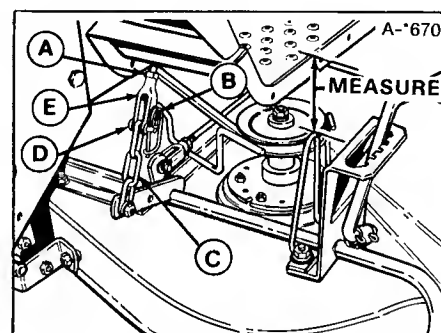
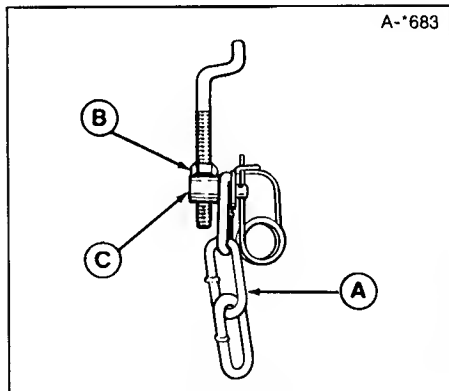

Figure 44. Lift Assembly - Small Lift Lever
Figure 46. Lift Assembly - Large Lift Lever.
2. Measure the distance between top of upstop bracket and bottom of footrest (figure 44). The measurement should be 3-1/4".
3. To adjust, disconnect clevis (E, figure 44) from chain. Loosen the nut, and turn clevis to raise or lower mower. Tighten nut when measurement is correct.
3. The measurement should be 6". To adjust, disconnect trunnion (figure 46) from chain. Loosen the nut (B) and turn the trunnion to raise or lower mower. Tighten nut when measurement is correct.
In the next step, refer to figure 44 if small lift lever is used or figure 46 if large lift is used.
3. To adjust, disconnect clevis (E, figure 44) or trunnion (C, figure 46) from chain. Loosen the nut, and turn clevis or trunnion to raise or lower mower. Tighten nut when measurement is correct.